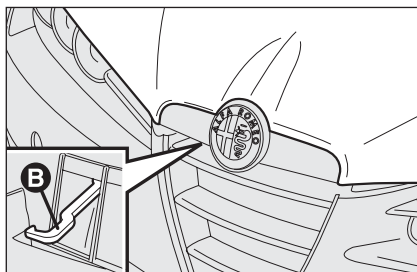

fig. 87
- ☐ keep the lever **B-fig. 87** pulled and raise the bonnet